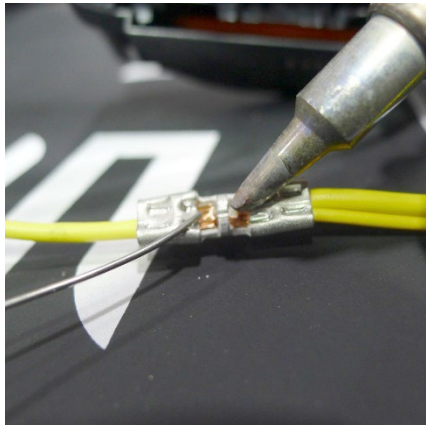

Figure 20 – Crimp wire and solder barrel crimp
20. Make a butt splice repair to attach the yellow power terminal wire to the barrel crimp of the jumper (Figures 20, 21, and 22).